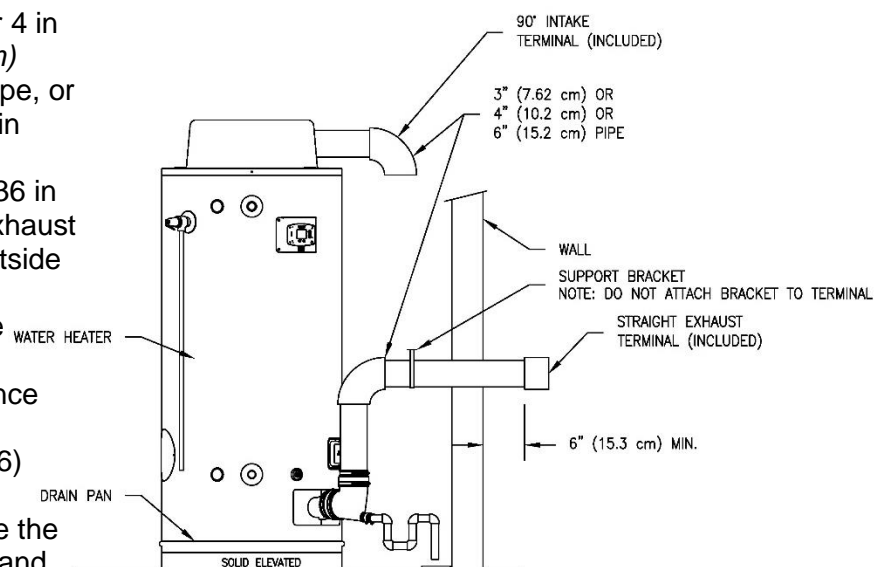

Figure 16 – Typical Horizontal Power Vent System
2. Use the proper cement or sealant to secure the exhaust vent terminal provided with the water heater to the plastic pipes. The distance between the back edge of the exhaust vent terminal and the exterior wall (see Figure 16) must be 6 in (15.2 cm). Use the proper cement and assembly procedures to secure the vent connector joints between the terminal and the blower outlet. Provide support brackets for every 3 ft (.92 m) of horizontal vent.